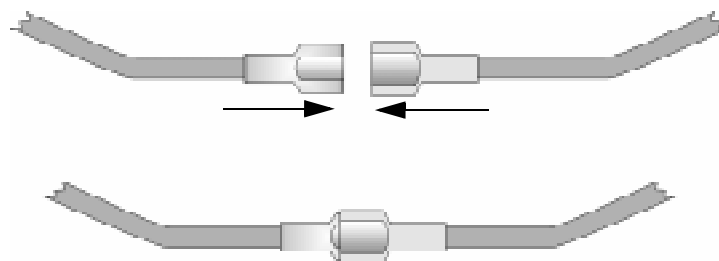

Figure 4-4 Splicing Control panel Battery Cable to AB-33 Battery Cable Extenders
2. Connect the main control panel battery cables to the battery cable extenders as shown in Figure 4-4.